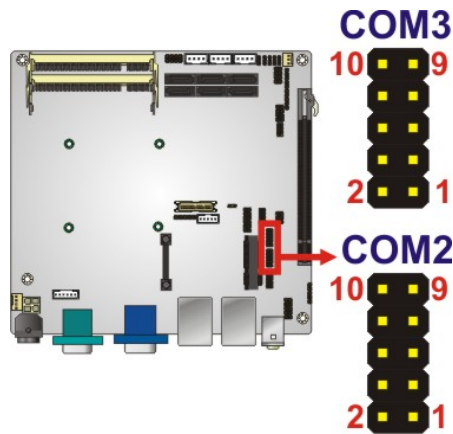

Figure 3-18: COM Connector Pinout Locations
- CN Location:** See Figure 3-18